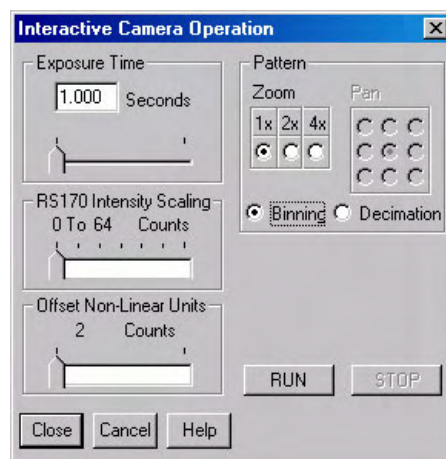

Figure 34. ST-133
2. Select **Video Focus** from the Acquisition Menu. The **Interactive Camera** dialog box (Figure 34) will open.